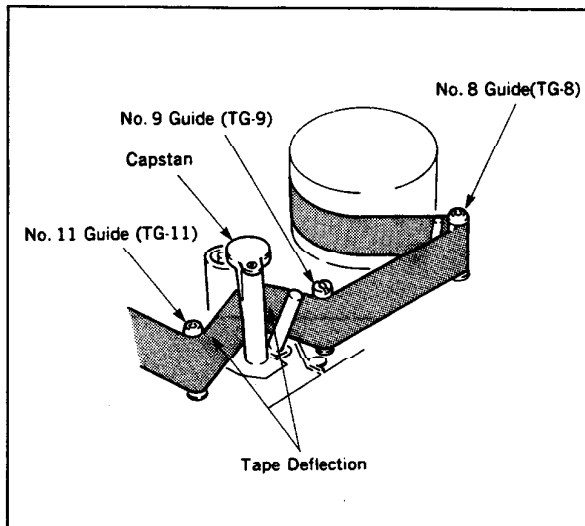

Fig. 63
- 2) In the PLAY BACK mode, check that the RF waveform rises horizontally within one second. At this time, check also that the tape is not deflected around the pinch roller. (Fig. 63)
In the **CUE** and **REV** modes, check that the TG-2 upper and lower flanges, TG-4 lower flange, TG-5 upper flange, TG-8 upper flange and TG-11 upper and lower flanges are not cued greatly. (Fig. 63)